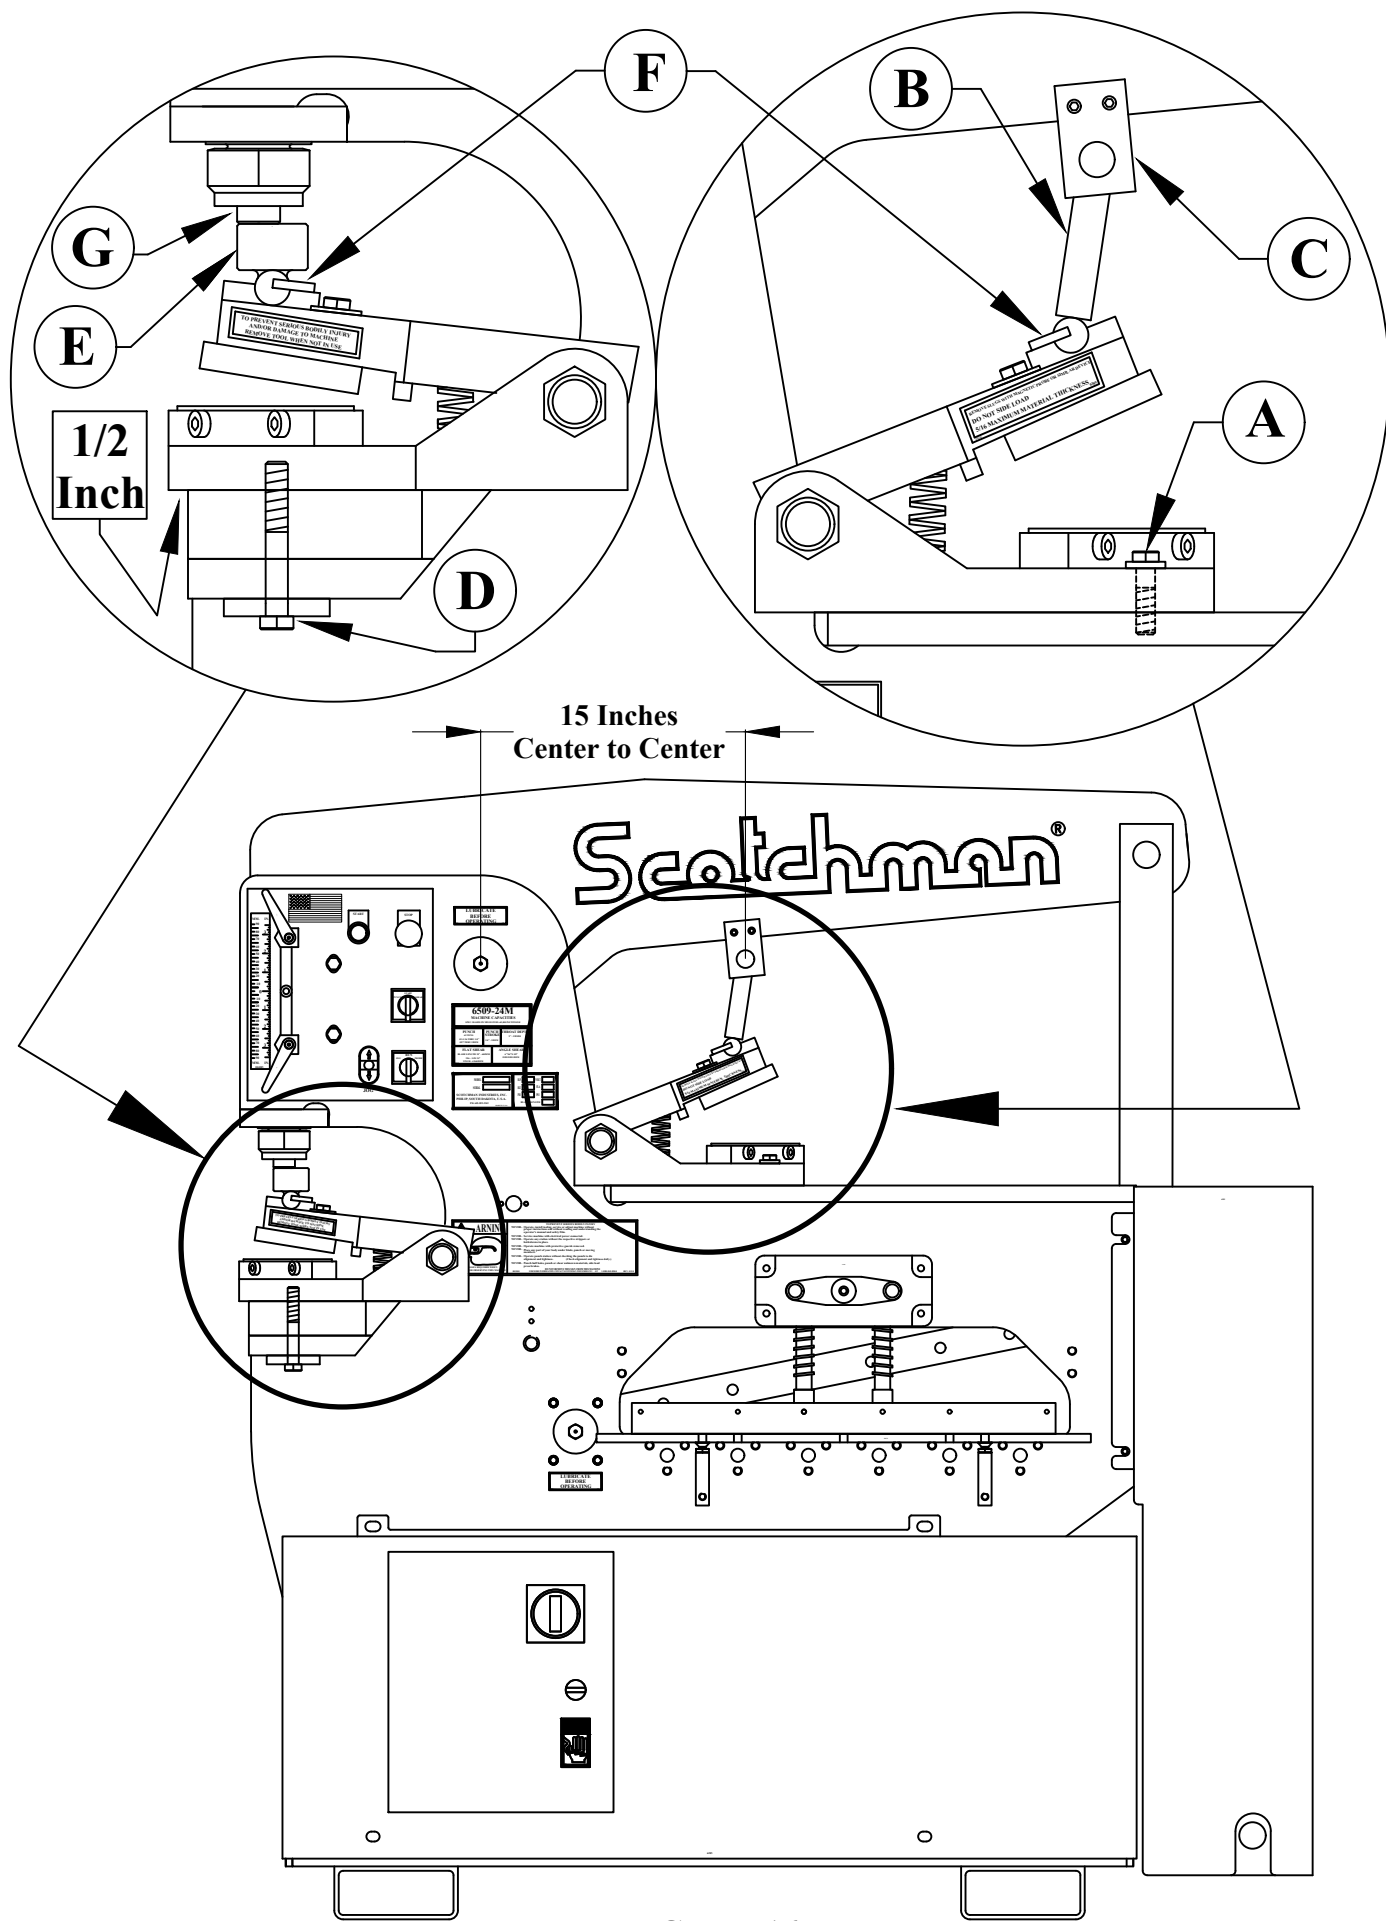

FIGURE 16
SEE FIGURE 16 ON THE FOLLOWING PAGE.
To install the notcher under the upper arm, the tool should be mounted as close to the frame as possible and anchored with the bolts and thick washers (A) provided. The pusher (B) and beam block (C) should be installed per the dimensions in FIGURE 16.
To mount the notcher in the punch station, first remove the die holder, stripper and punch. Mount the short punch pusher (G) with the standard jam nut. Mount the notcher to the punch table with the front of the notcher extending past the front of the punch table about 1/2". SEE FIGURE 16. Mount the notcher to the punch table with the heavy washer and bolt (D) provided. The Punch Pusher (G) and the Notcher Pusher (E) should align as shown, with the punch pusher toward the front of the notcher pusher.